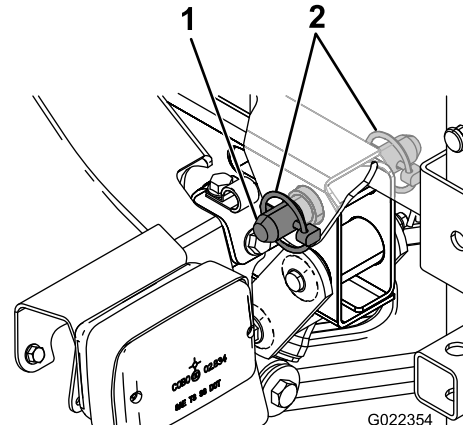

Figure 10
- Line up the holes in the pivot lugs at the rear of the tank skid assembly with the holes in the bed pivot tube at the end of the vehicle frame (Figure 10).
- Install a tapered clevis pin and 2 lynch pins to the pivot lug to secure the tank assembly to the frame (Figure 10).